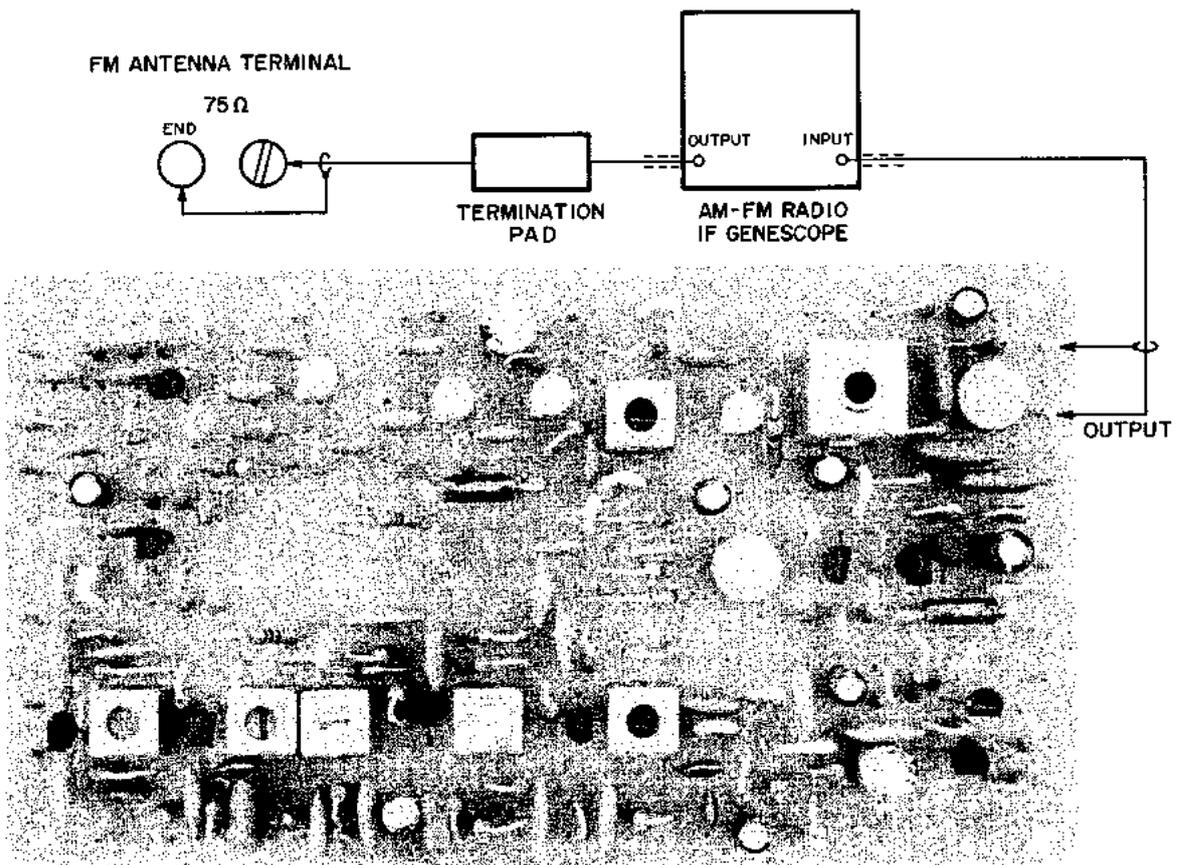

Fig. 7 INSTRUMENT CONNECTIONS
- 1) Connect the GENESCOPE lead wires to the 75Ω FM ANTENNA TERMINALS of the Receiver as well as to the FM IF Amp. P.C. Board output as shown in Fig. 7.